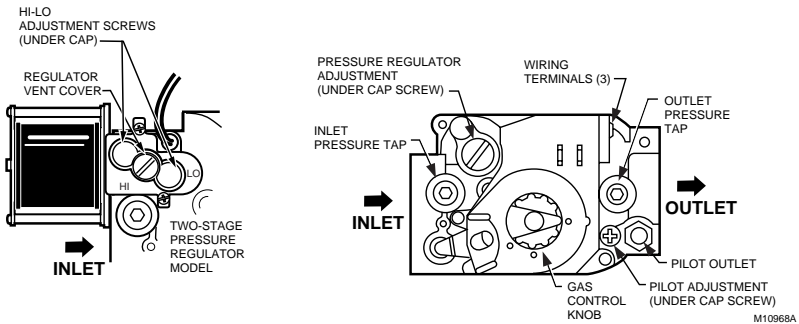
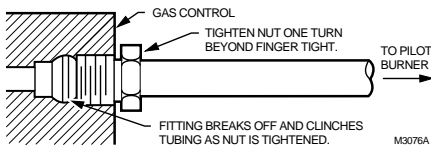

Fig. 6. Top view of gas control.
Fig. 7. Always use new compression fitting.
3. Unscrew the brass compression fitting from the pilot outlet (Fig. 6). Slip the fitting over the tubing and slide out of the way. See Fig. 7.
- Remove pilot adjustment cover screw. See Fig. 6.
3. With main burner operating, check the control flow rate using the meter clocking method or check pressure using a manometer connected to the outlet pressure tap on the control. See Fig. 6.
- b. Using a screwdriver, turn the inner adjustment screw (Fig. 6) clockwise  to increase or counterclockwise  to decrease the gas pressure to the burner.
3. With main burner operating, check the gas control flow rate using the meter clocking method or check pressure using a manometer connected to the outlet pressure tap on the gas control. See Fig. 6.
Using a screwdriver, turn the inner adjustment screw (Fig. 6) clockwise  to increase or counterclockwise  to decrease the gas pressure to the burner.
4. With main burner operating, check the gas control flow rate using the meter clocking method or check pressure using a manometer connected to the outlet pressure tap on the gas control. See Fig. 6.
- a. Remove the pressure regulator adjustment cap (Fig. 6).